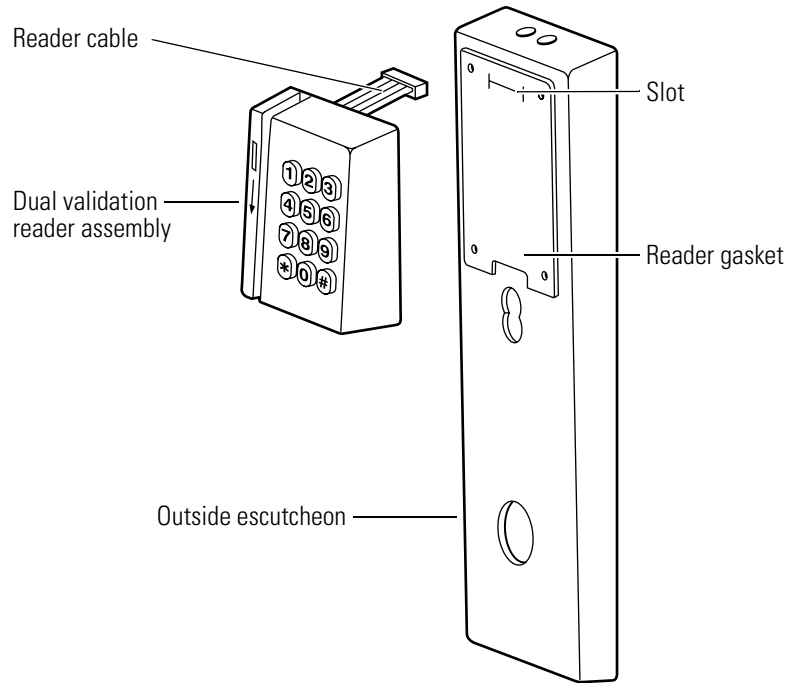

Figure 9.23 Positioning the dual validation reader assembly
1. Orient the dual validation reader assembly and insert the reader cable through the slot in the outside escutcheon. See Figure 9.23.